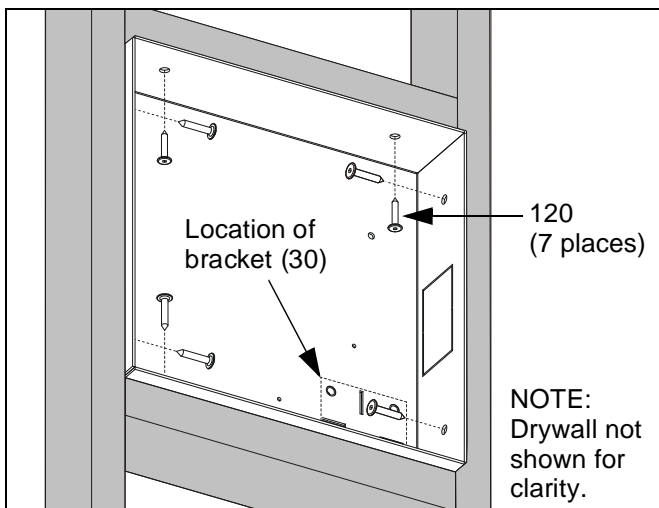

Figure 5: Option 2 - Secure Housing
- Option 2: Install upper and lower horizontal 2x4 framing; lower framing replaces bracket (130) (See Figure 5). If applicable, cut rectangular hole in lower framing to accommodate electrical box.
- Option 2 (with framed-in housing (10)): Using key (240) or bit (230) install 7 bolts (120) through housing (10) into studs/framing (See Figure 5). Tighten securely.